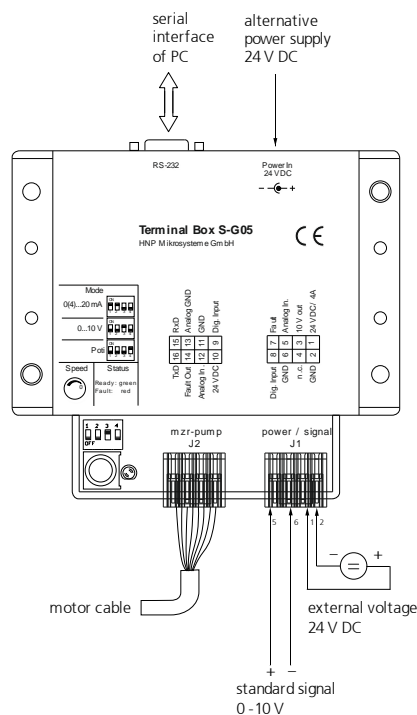

figure 46
4. Connect an external 0-10 V voltage supply to the terminal clamps »AnalogIn« and »GND« to the S-G05. (see figure 46)
4. Connect an external 0-10 V voltage supply to the terminal clamps »AnalogIn«, »10 V« and »GND« to the S-G05.(see figure 46)